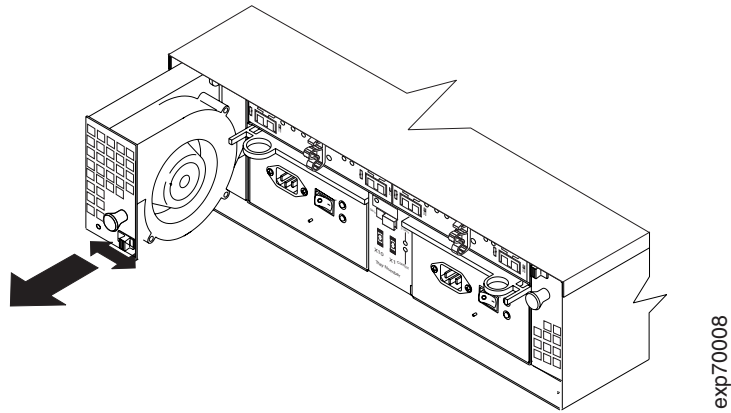

Figure 58. Replacing a hot-swap cooling fan
- b. Use the handle (black knob) to pull the fan from the fan bay as shown in Figure 58 on page 75.
The open side of the fan CRU faces the power supply and ESM CRUs. If the fan does not go into the bay, rotate it 180°. (See Figure 58.)